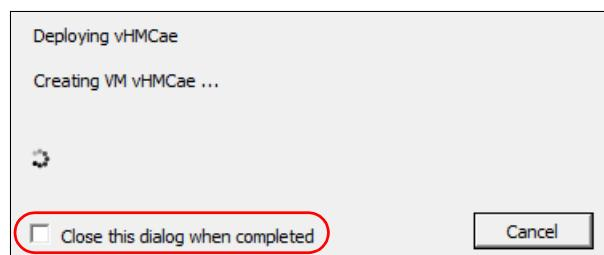

Figure 3-59 Deployment starts
13. The VM creation now starts (Figure 3-59). If you do not select **Close this dialog box**, a completion panel will be displayed.